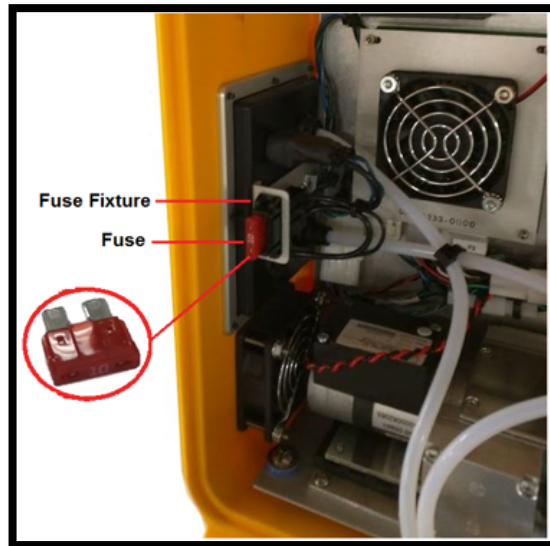

Figure 44: Analyzer Fused Inlet
5. The fuse is located on the upper portion of the analyzer on the left side above the internal pump. (Figure 44)